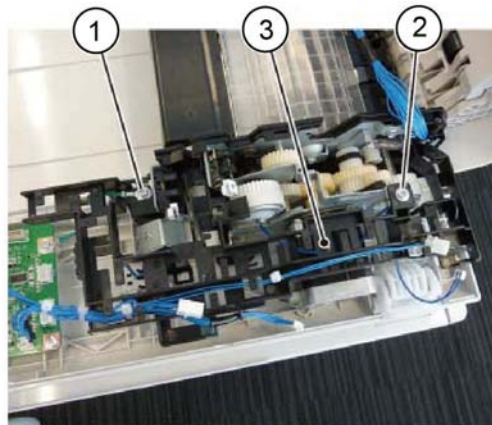

Figure 7 Harness guide removal
10. Remove the harness guide and wire harness, Figure 7:
- a. Disconnect the ground wire (1).
- b. Remove the screw (2).
- c. Remove the harness guide and wire harness (3).